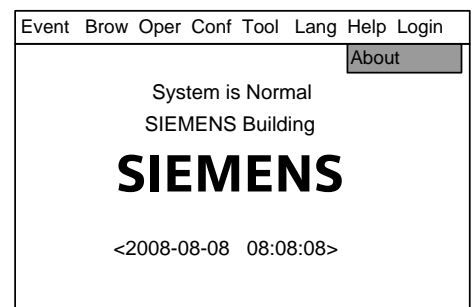
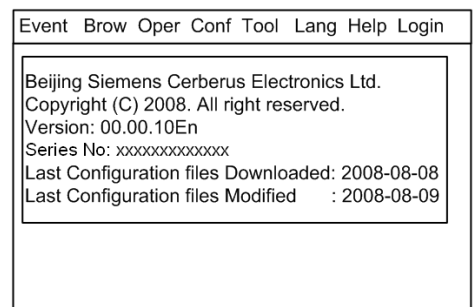

Fig.27-2
Fig.27-3
2. Press "→" to select "Help" submenu (Fig. 27-2). Press "OK" to display the help information window (Fig.27-3).